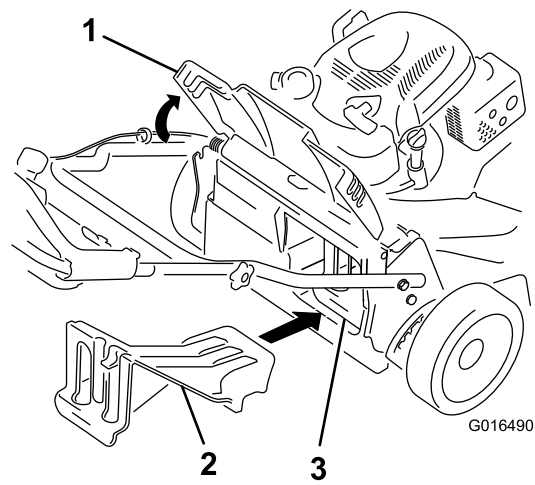

Figure 23
- If the rear-discharge plug is not installed, grip it by the handle, raise the rear door, and insert it into the rear-discharge chute until the latch locks into place; refer to Figure 23.
Important: Ensure that the rear-discharge plug is in place before you recycle the clippings (Figure 23).